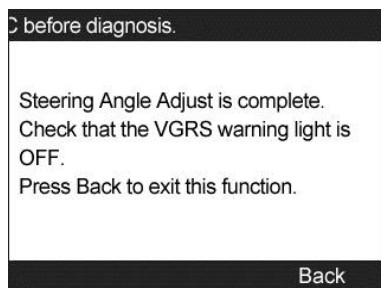

Figure 12-12
- 2) The tool will display a series of instructions. Follow the onscreen instructions step by step until the operation is completely finished. If the operation is finished successfully, the scan tool will display a confirmation message. (Figure 12-12) Otherwise, it will display a message to remind user of a problem. After you exit the diagnosis program, please repair the problem immediately.